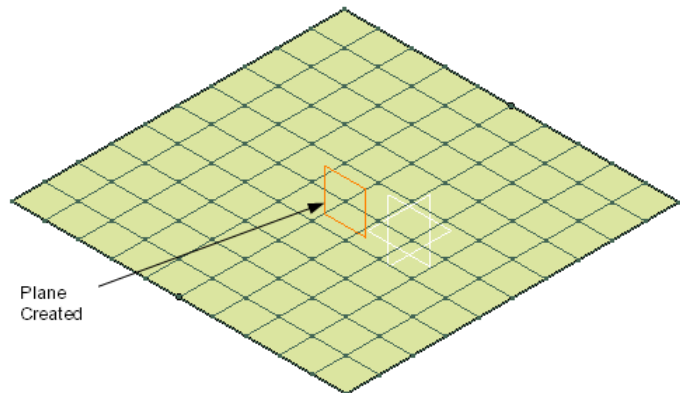

Figure 18-63 The plane created
4. Select the curve created earlier and choose the **OK** button; a plane is created, as shown in Figure 18-63, and the **Control Points** dialog box is displayed again.